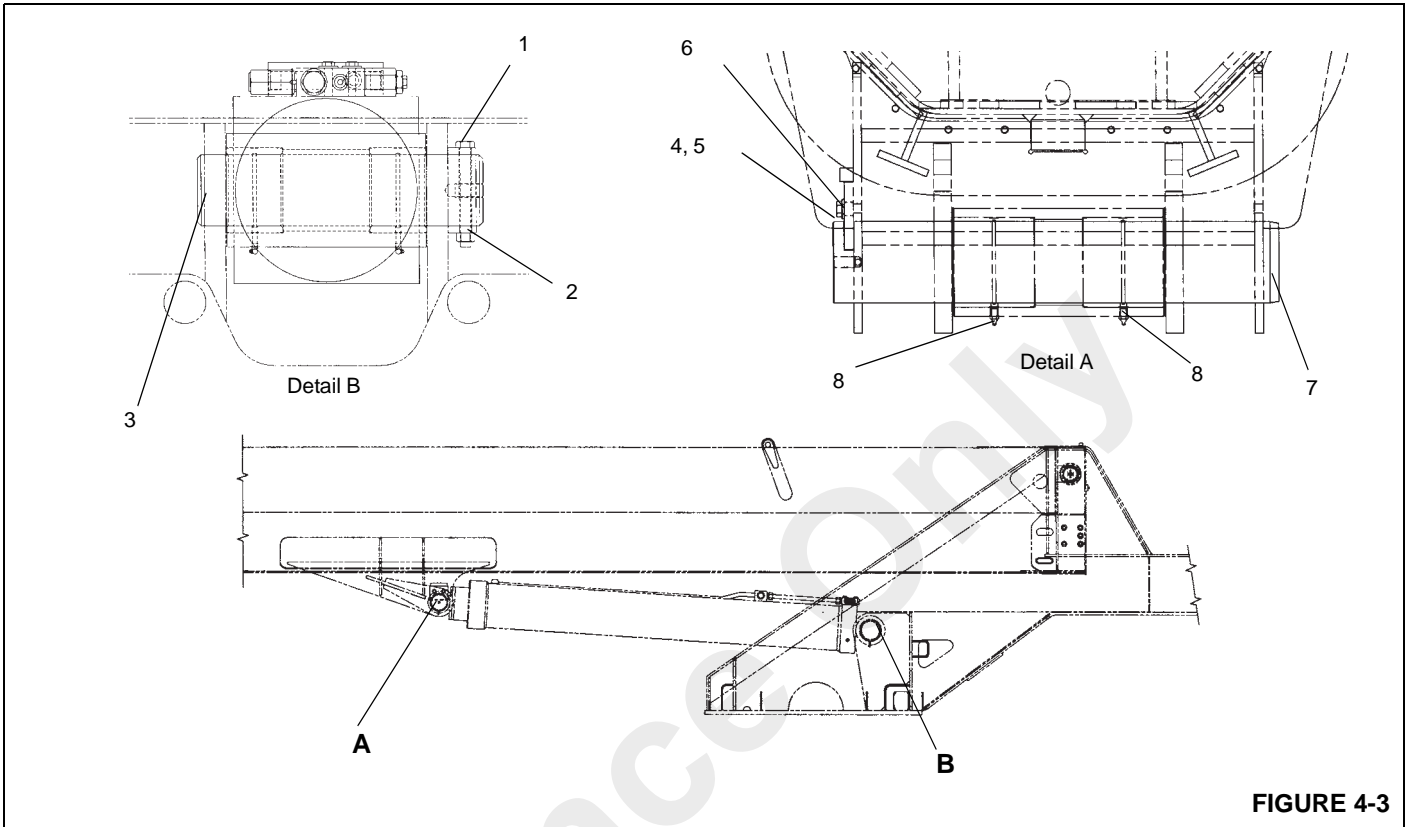

FIGURE 4-3
**NOTE:** Refer to (Figure 4-3) for removal and installation of lift cylinder.